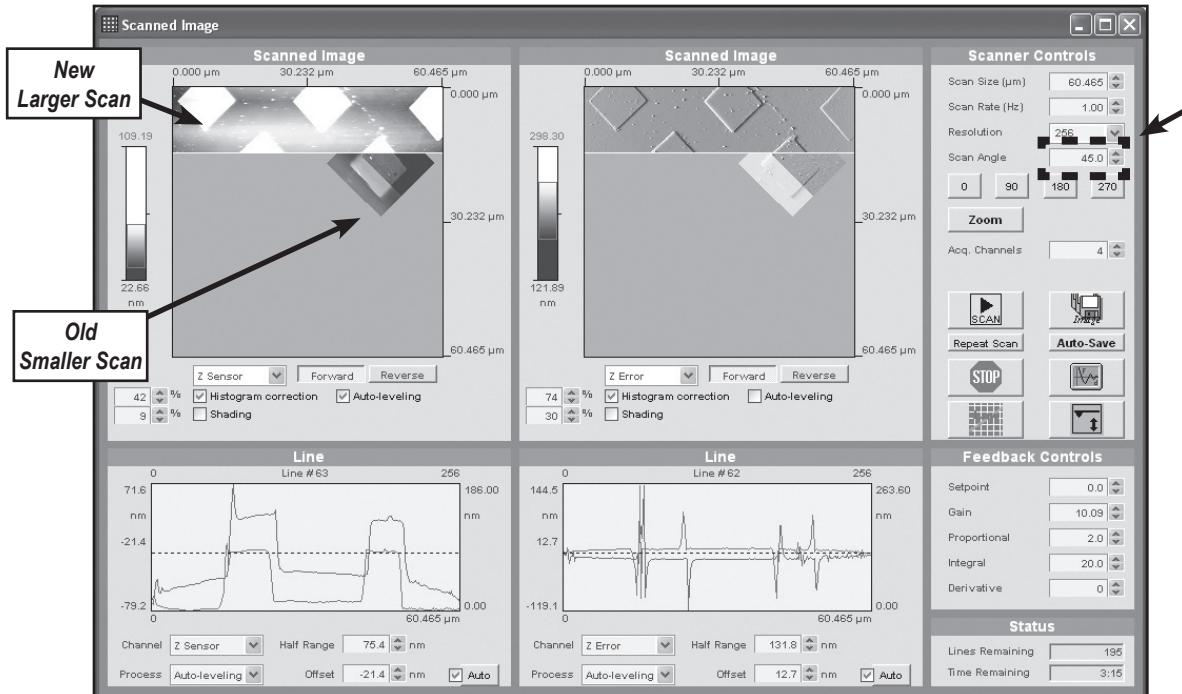

Figure 2.42: Scanning at an angle
9. To scan at an angle, enter the desired scan angle (from 0 to 360°) in the Scan Angle box. Click the Scan button to start a new scan. To scan a larger area at an angle, enter both the desired size and angle (Figure 2.42).